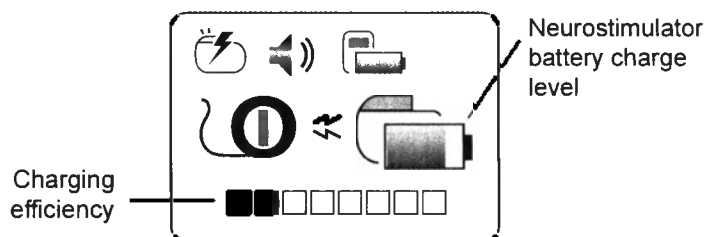

Figure 2.5 Neurostimulator charging session screen.
- b. When charging begins, the **Neurostimulator charging session** screen will appear. This screen indicates the neurostimulator battery charge level and efficiency of the charging session (Figure 2.5).